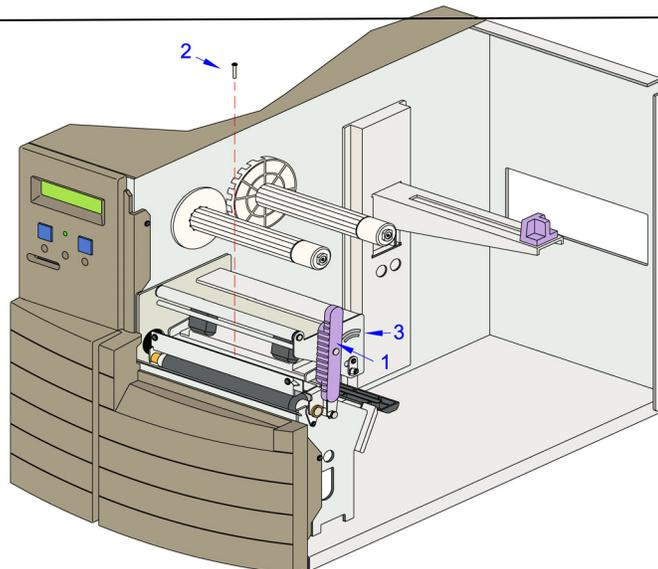

Figure 7-1a, Print Head Replacement
2. Open the right housing cover and latch print head release lever (1, Figure 7-1a) as necessary.
7. Insert replacement print head (4) into print assembly (3) and latch lever (1, Figure 7-1a).